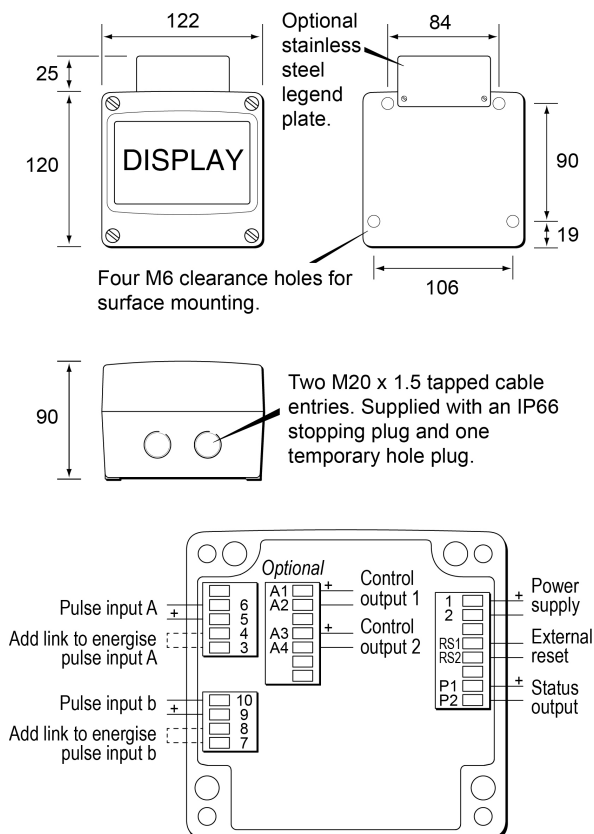

Fig 6 Dimensions and terminal connections
Field wiring terminals are located on the rear of the Timer or Clock assembly as shown in Fig 6.
- Feed the field wiring through the cable entry in the back-box and connect it to the instrument terminals as shown in Fig 6. Replace the instrument assembly on the back-box and evenly tighten the four 'A' screws.
The BA574G can also be supplied with a blank or custom laser engraved stainless steel legend plate - see Fig 6. The plate, which after installation is visible from the front of the instrument, is supplied loose with two fixing screws for securing it to the rear of the instrument's back-box. This plate can typically accommodate: